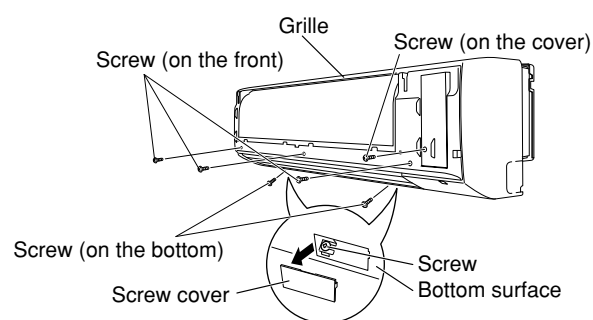

Fig. 17a
- (4) Remove the screw on the right side cover plate and remove the cover. (Fig. 17a)